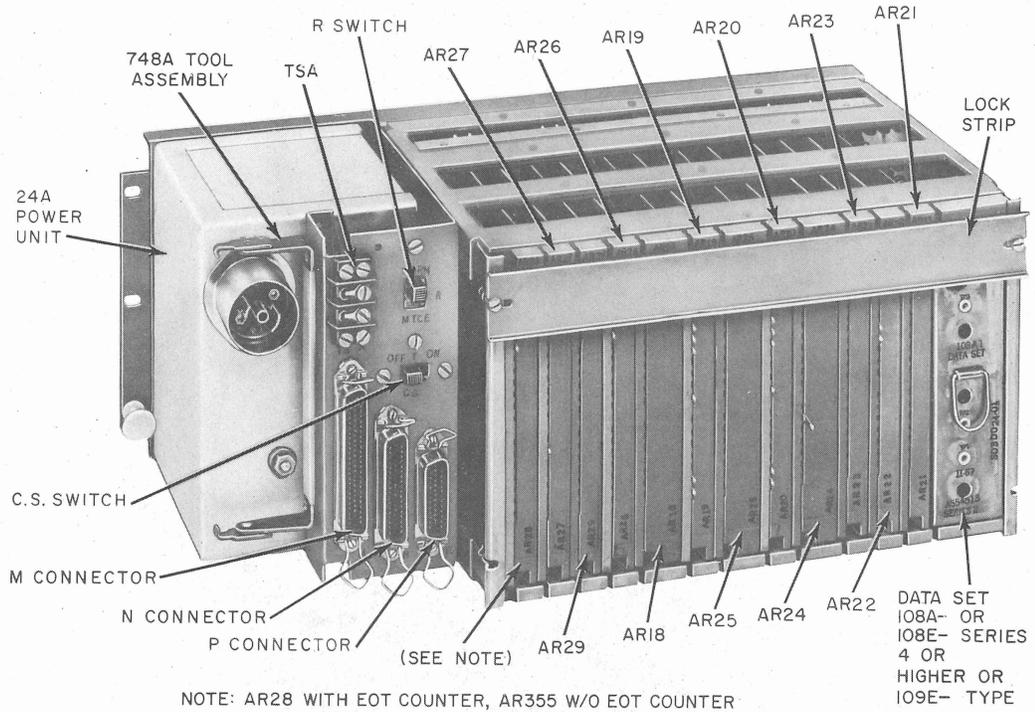

Fig. 1—DAS 820A1 or A2—Locations of Circuit Packs and Components
2.04 Verify that the proper circuit packs (CP) are installed in DAS 820A1, 820A2, or 820A6 (Fig. 1 or 2), and that the R and CS switches are positioned properly according to the service order and/or worksheet.
2.06 Using the 748A tool or lock strip bar remove AR18 and AR25 CPS (Fig. 1 or 2) as follows: